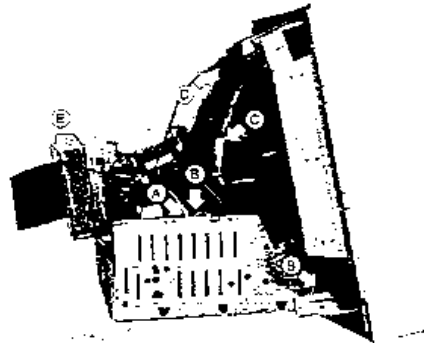

Figure 2-6 Remove the Neck Board & the Main Board
4. Cut the cable tie indicated to free the cables. Refer to figure 2-6 (A).
5. Disconnect the two ground wires from the main board. Refer to the figure 2-6 (B).
6. Remove the connected pin. Refer to the figure 2-6 (C).
7. Remove the anode cap from the CRT. Refer to the figure 2-6 (D).
8. Remove the ground wire from the neck shield. Refer to the figure 2-6 (E).